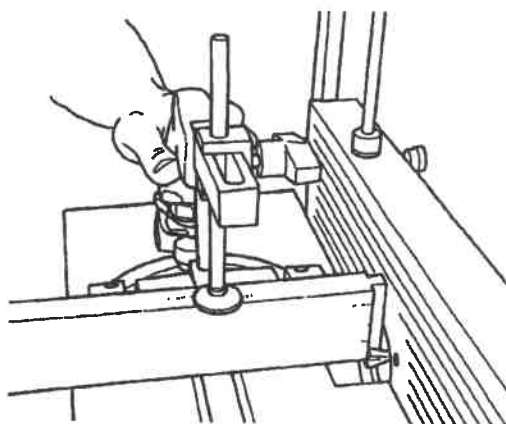

Fig. E-12
18. Turn on the Dust Collector and router. Make a cut on the bottom of each rail's pin, as in Fig. E-12. Turn off the router and Dust Collector.